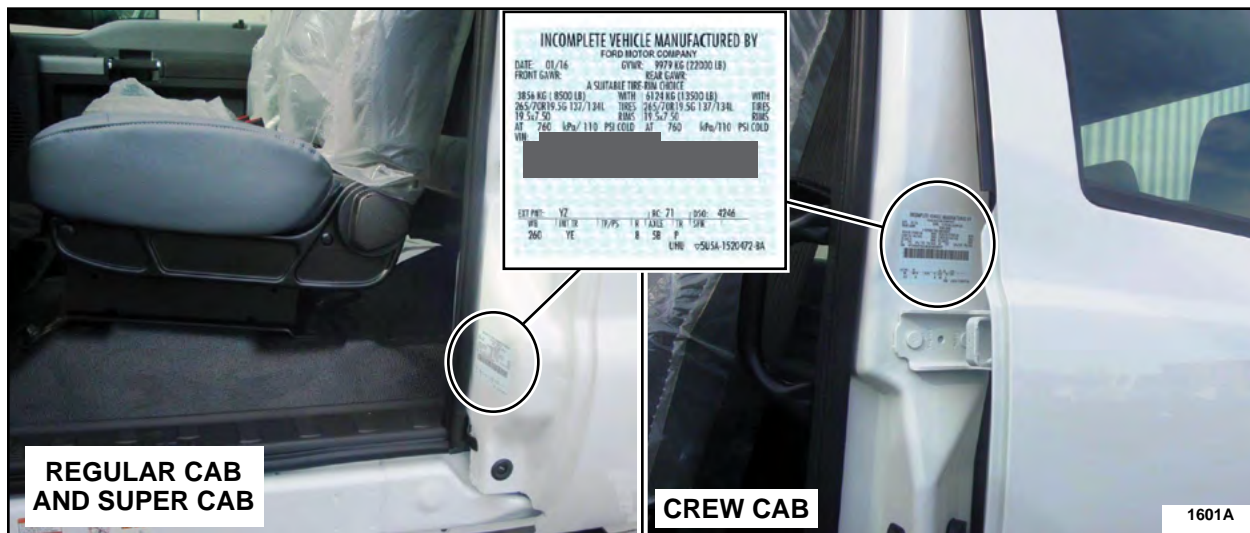

FIGURE 1
1. Replace the Vehicle Certification Label. See Figure 1.